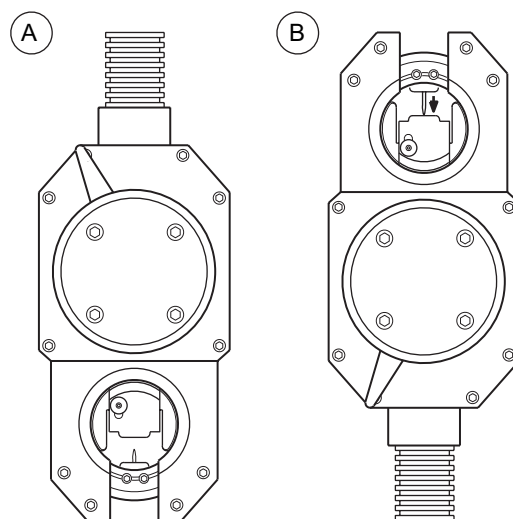

Figure 9 Setting the Arc Gap
2. Insert the arc gap gage into the rotor. See Figure 9(A).
3. Tilt the weld head upward. Loosen the electrode screw allowing the electrode to drop onto the gage surface. See Figure 9(B).